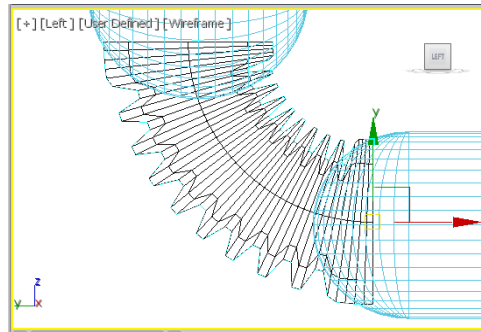

Figure 3-35 Alignment of spring support in the Left viewport
10. Choose the **Select and Move** tool and align *spring support*, as shown in Figure 3-35.